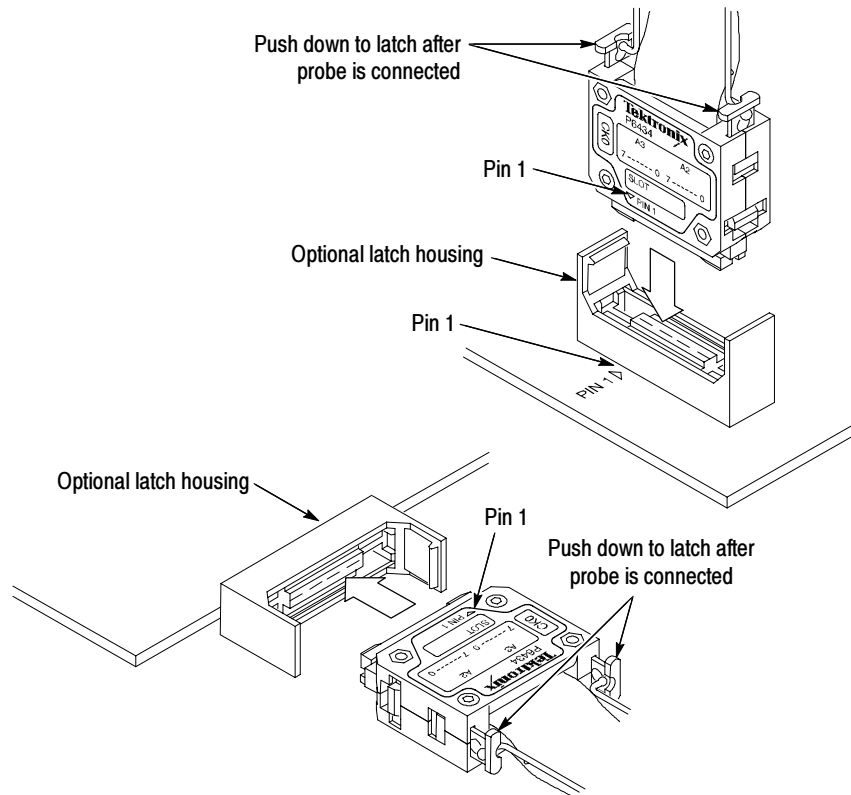

Figure 7: Connecting to a surface- or straddle-mounted connector
2. Position the probe tip perpendicular to the mating connector, and gently connect the probe as shown in Figure 7.